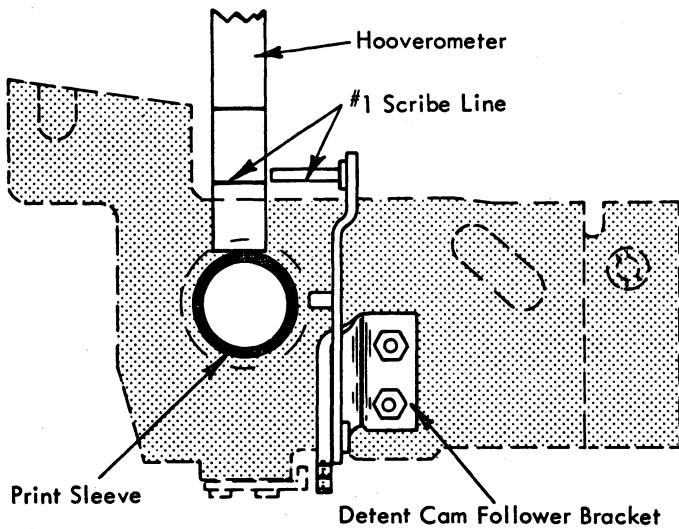

FIGURE 100B. Detent Cam Follower Bracket
- b. Vertically so that the bottom surface of the pin on the cam follower lines up with the scribe line #1 on the Hoovermeter when the Hoovermeter is placed against the print sleeve as shown in Figure 100b.